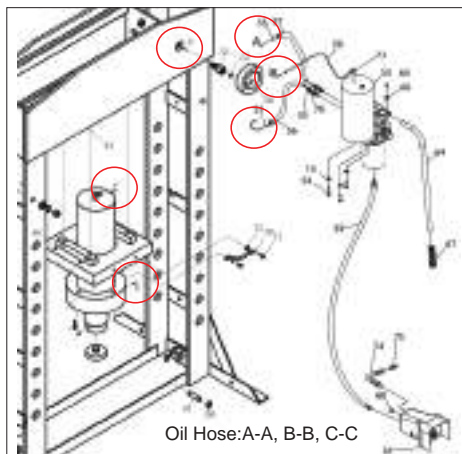
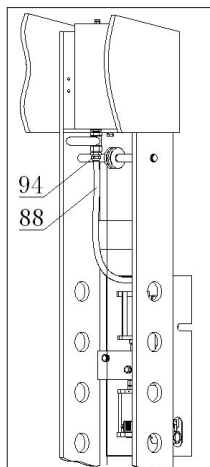
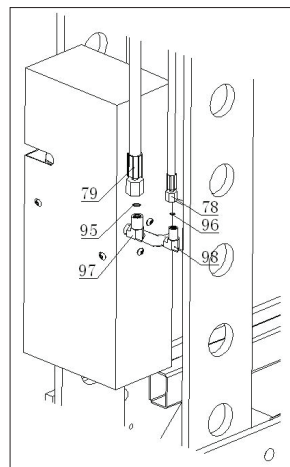

Fig.08
Fig.10
Fig.11
- Assemble oil hose :Fig.08 (WP75P), Fig.10 ,Fig.11 (WP100P).